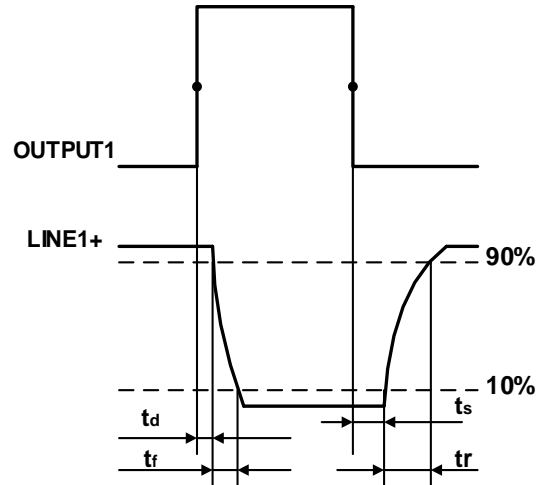

Figure 7-6 Parameter of opto-isolated output circuit
- Rising time delay = $t_r + t_s$: $< 50\mu s$ (0°C~45°C) (parameter description is shown in Figure 7-6)
- Falling time delay = $t_s + t_f$: $< 50\mu s$ (0°C~45°C) (parameter description is shown in Figure 7-6)
- Rising time delay = $t_f + t_d$: $<20\mu\text{s}$ ($0^{\circ}\text{C}\sim 45^{\circ}\text{C}$) (parameter description as shown in Figure 7-6)
- Falling time delay = $t_r + t_s$: $<20\mu\text{s}$ ($0^{\circ}\text{C}\sim 45^{\circ}\text{C}$) (parameter description as shown in Figure 7-6)